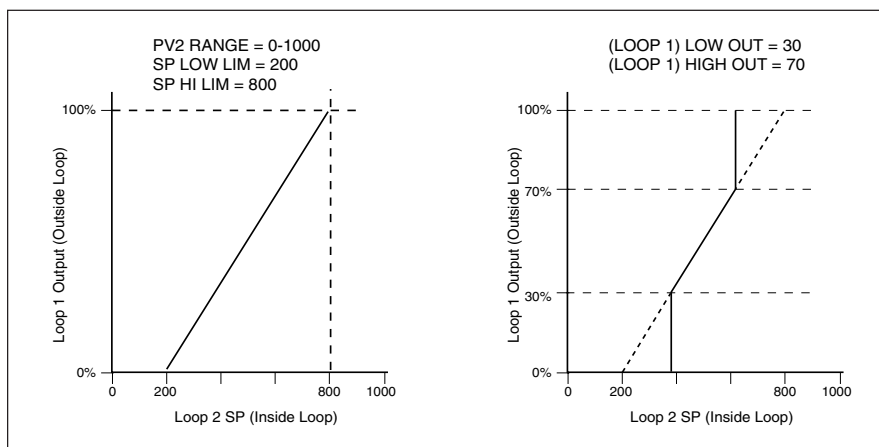

Figure 7.21
- d. Use **LOW OUT.** and **HIGH OUT.** to limit the Loop 2 RSP values of without changing the RSP range. Refer to Figure 7.21 for details.
Similarly, whenever Loop 1 output is 100%, then Loop 2 SP is at 800. All the intermediate values follow a linear curve, as shown in Figure 7.21.